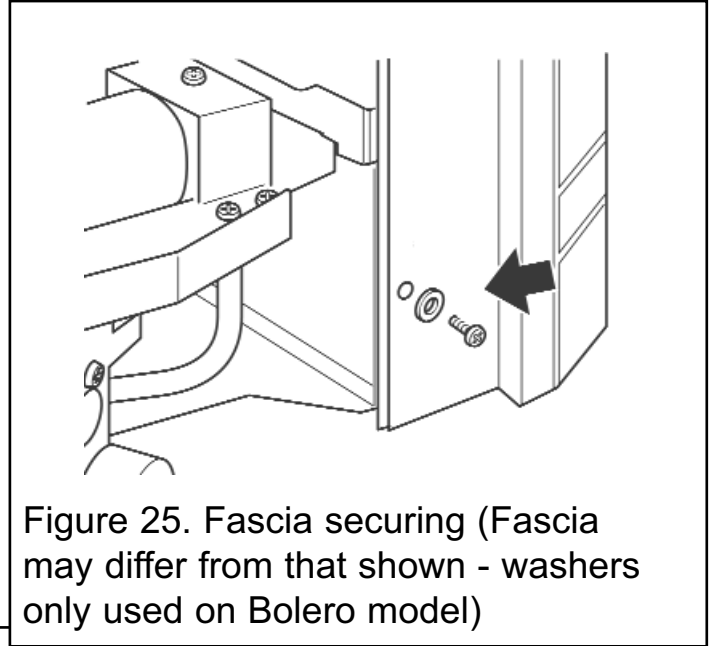

Figure 25. Fascia securing (Fascia may differ from that shown - washers only used on Bolero model)
3. Secure the fascia using the two 'E' screws and 'D' washers supplied (See figure 25).
2. Secure the fascia using the two 'C' screws supplied (See figure 25).